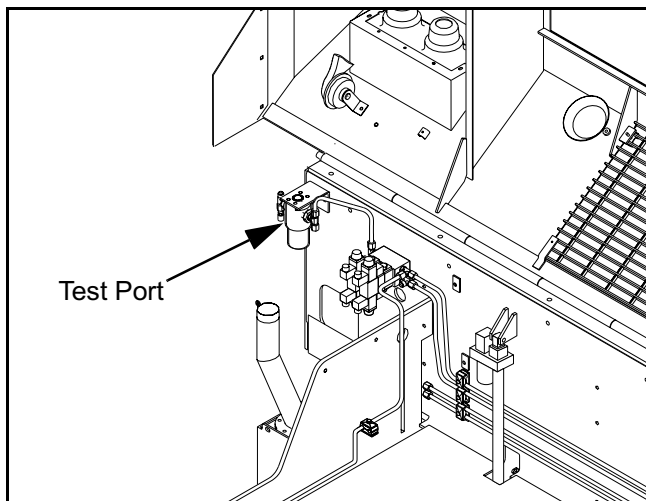

Figure 5 - 13 Auxiliary Pressure Test Port
- 1) Install a pressure gauge (3000 psi) at the auxiliary pump filter test port. (Figure 5 - 13)